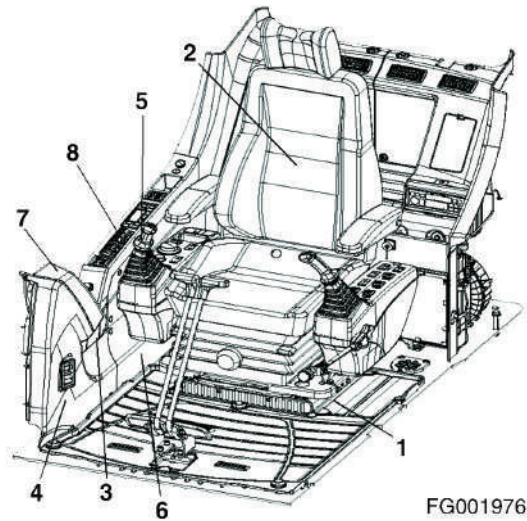

Figure 2
12. Remove floor mat (1, Figure 2).
13. Remove seat (2, Figure 2).
14. Remove cup holder (3, Figure 2).
Remove front cover (4, Figure 2) and side covers (5 and 6, Figure 2). When removing cover(4, Figure 2), disconnect hour meter connector.
NOTE: *Don't remove monitor panel (7, Figure 2) and switch panel (8, Figure 2).*